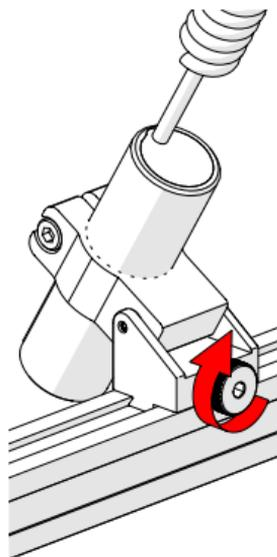

Fig. 17 - Tighten knob
4. Tighten the optical guide knob (*Fig. 17*).